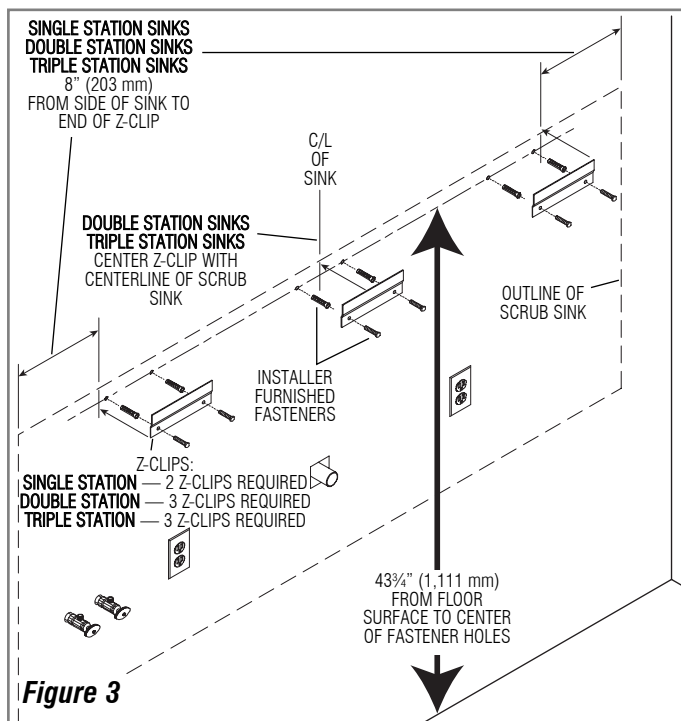

Figure 3
Step 3 — Install "Z" Clips to Wall (Figure 3)
Install "Z" Clips (using installer furnished fasteners) so that mounting holes measure 43 $\frac{3}{4}$ inches (1,111 mm) from floor surface for a standard 41 inch (1,041 mm) sink height. Refer to Figure 3 for complete dimensioning details.